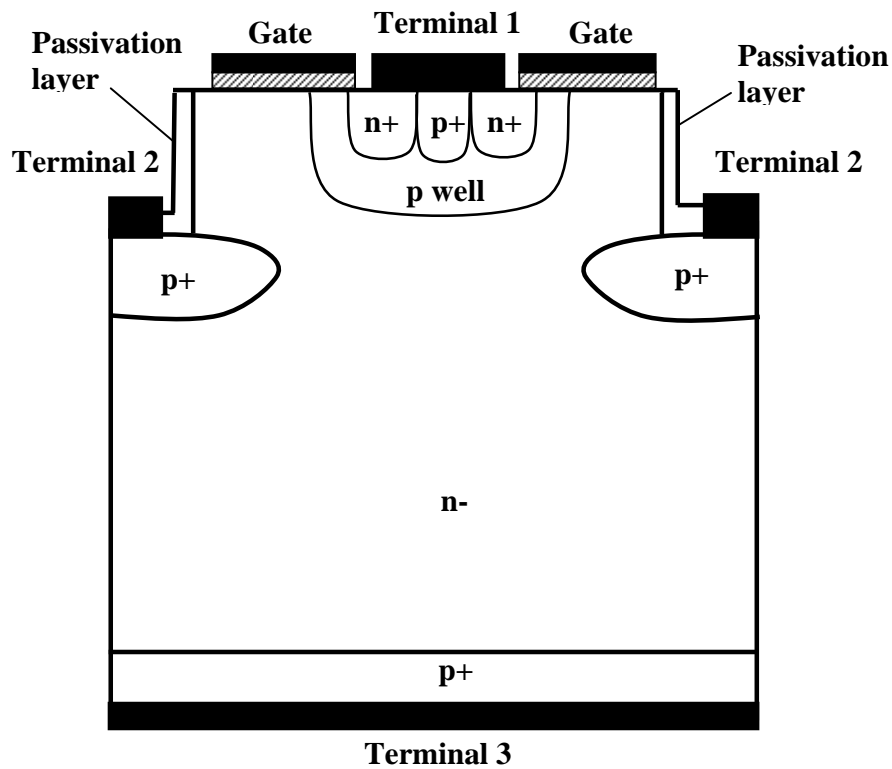

Fig. 3
3. The cell structure in Fig. 3 is part of a vertical power device.